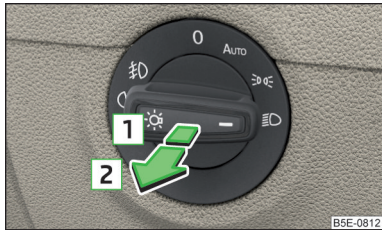

Fig. 71
- ✓ The lights switch is in position **AUTO**,  $\Rightarrow \leftarrow$  or  $\Rightarrow \leftarrow$  » Fig. 71.